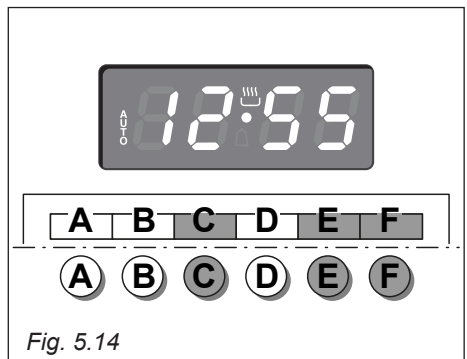

Fig. 5.14
2. Set the end of the cooking time by pushing the “C” button and the “F” button to advance, or “E” to go backwards if you have passed the desired time (fig. 5.14).